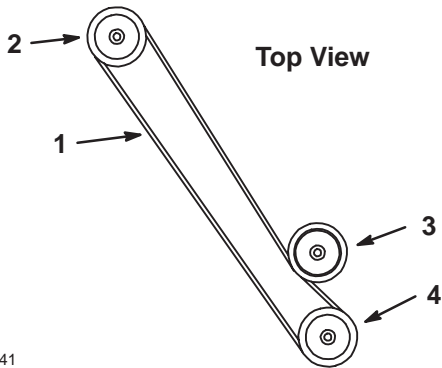

Figure 13
3. Pull on the idler pulley to release the tension and at same time route the collector belt around the idler pulley (Fig. 13).